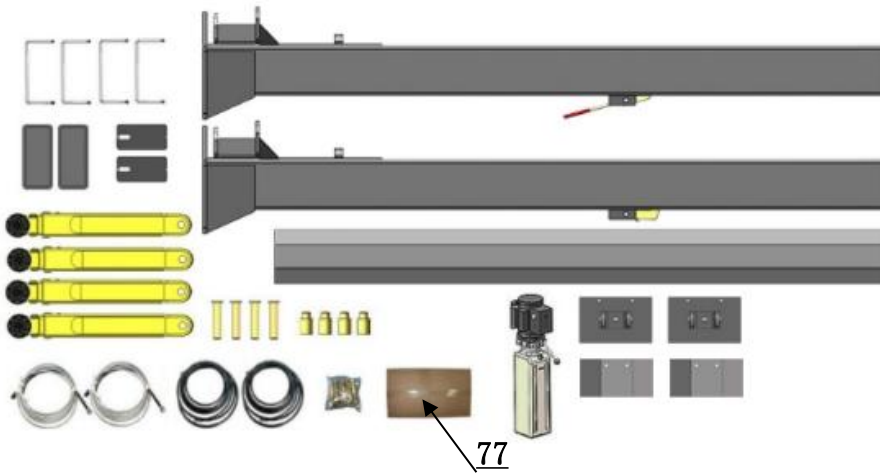

Fig. 11
- Move aside the parts and check the parts according to the shipment parts list (See Fig. 11, 12).